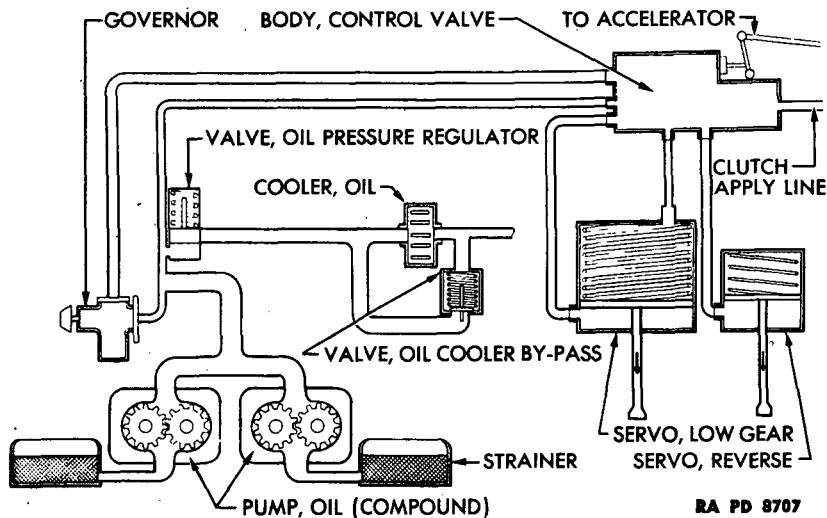

Figure 13 — Hydraulic Control System
e. **Hydraulic Control System.** The timing of the changes in gear ratios, either upshifting or downshifting, is the function of the hydraulic control system. This system is basically one of carefully balanced valves to provide a precise relationship between the velocity of the vehicle and the performance demands of the driver as expressed by the pressure on the accelerator. The hydraulic control units, illustrated in diagrammatic form in figure 13, consist of the following: a compound oil pump connected to an oil pressure regulator, a centrifugal-type governor, a control valve body containing the control valves and shift valves, and the necessary connecting passages.